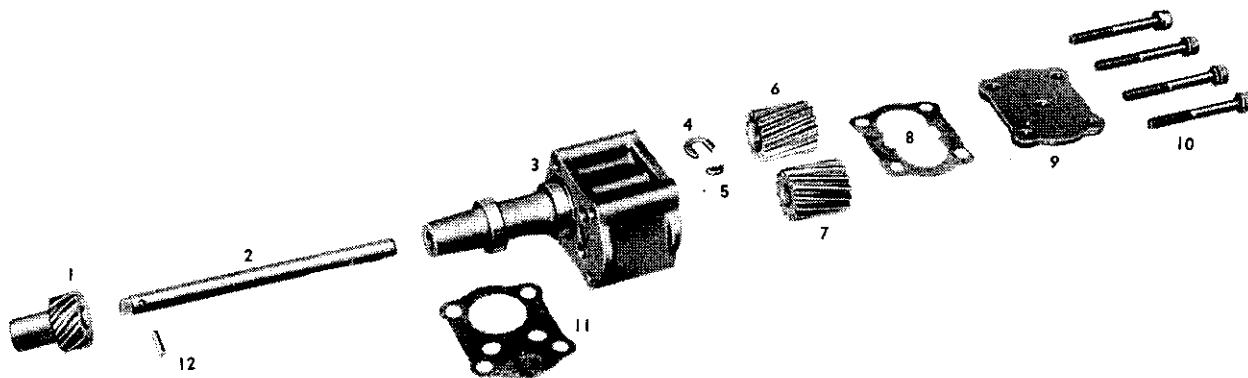

FIG. 376
Disconnect the oil pressure gage pipe at the elbow at the oil pump cover. Remove the four cap screws (10, Fig. 376) which hold the pump body (3) to the block, then remove the body cover (9) and the oil pump.
With the horseshoe-shaped thrust washer (4, Fig. 376) and the Woodruff key (5) in place, press the oil pump drive gear (6) on the drive shaft (2). After inserting the drive shaft in the oil pump body (3), press the drive shaft gear (1) on the shaft, being sure to align the holes in the gear and the shaft. Then lock the gear on the shaft with a new 3/16" (4,76 mm.) pin (12) and peen the pin securely in position.